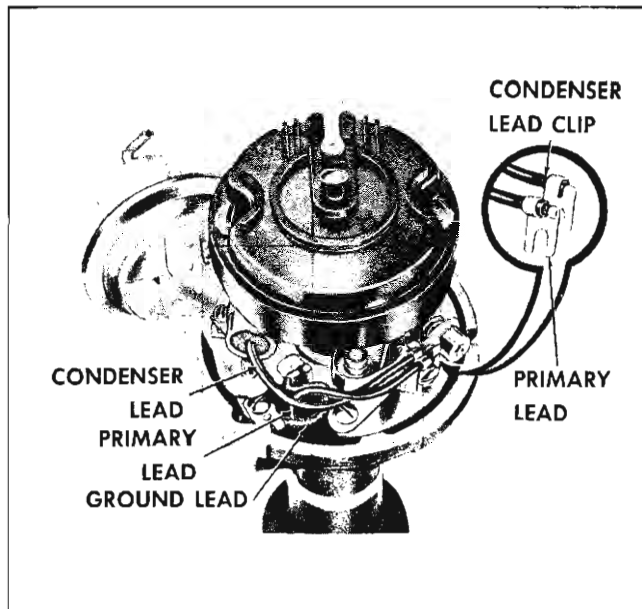

Fig. 11-47 Arrangement of Distributor Leads
**CAUTION:** Make sure the condenser lead and primary lead are located as in Fig. 11-47. Leads must be properly located to eliminate interference between leads and cap, weight base, or breaker plate.